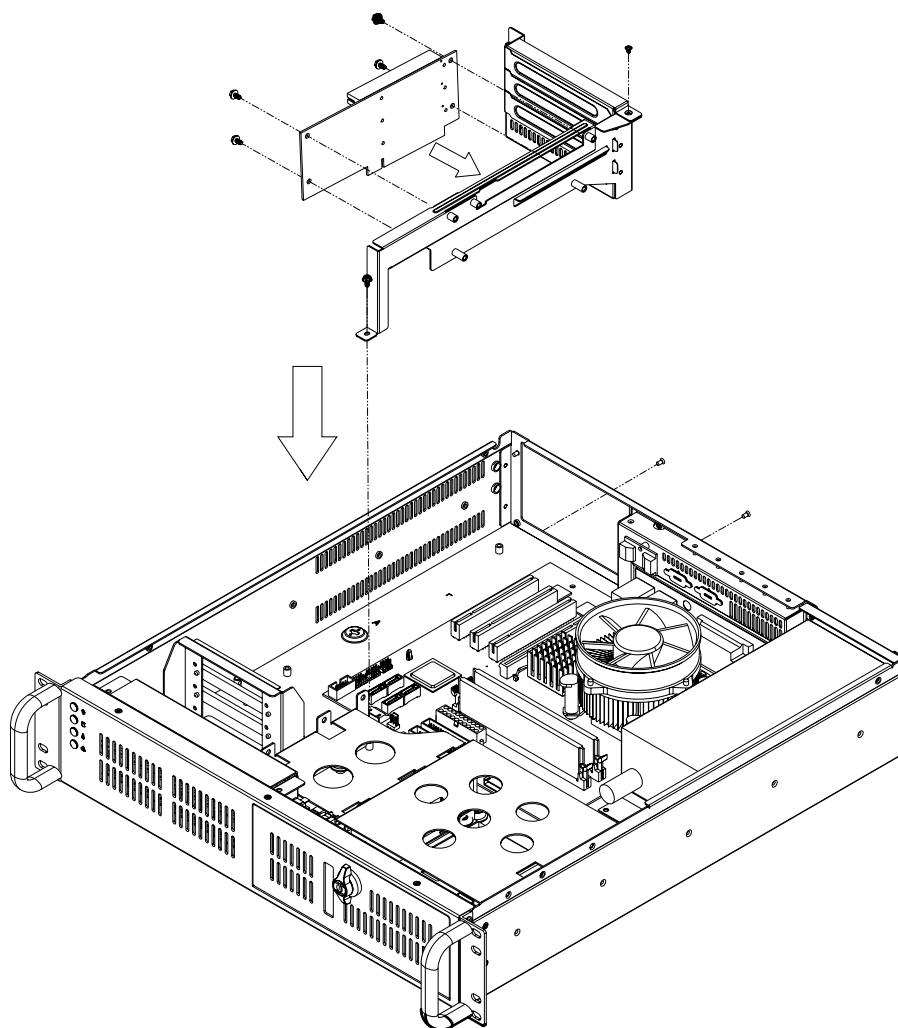

Figure 2.5 Installing a riser card
1. Fasten the riser card to the riser card holder with the four screws. Then insert this unit into the slot on the motherboard. (See Figure 2.5.)